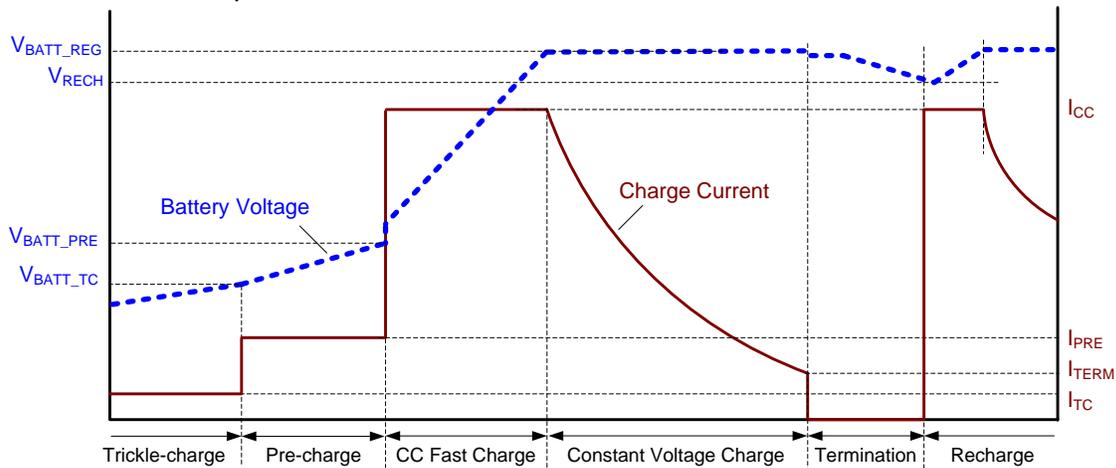

Figure 2: Charge Cycle Profile
When the input power is qualified as a good power supply, the IC checks V_{BATT} and provides four charging phases: trickle charge, pre-charge, constant-current (CC) fast charge, and constant-voltage charge (see Figure 2).